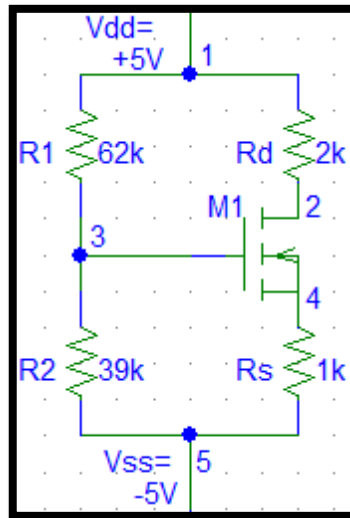

Figure 1. NMOS Circuit
- ❑ Calculate all node voltages by hand for the circuits shown in figures 1 and 2.